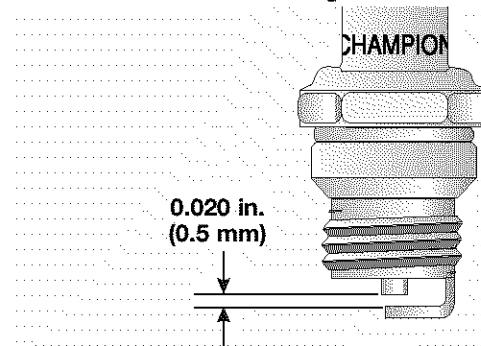

Fig. 18
Use a Champion RDJ7Y spark plug (or equivalent). Correct air gap is **0.020 in. (0.50 mm)**. Remove plug after **every 25 hours** of operation and check its condition (Fig. 18).
3. Set the air gap at 0.020 in. (0.50 mm) using a wire feeler gauge (Fig. 18). Install a correctly gapped spark plug into the cylinder head. Torque to **110-120 in·lb (12.3-13.5 N·m)**.